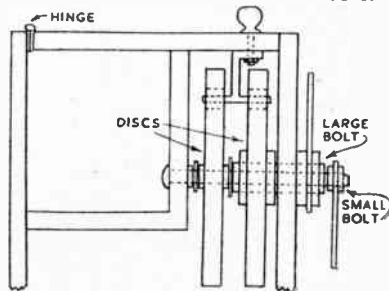

Fig. 5—Section showing mechanism
to be released in one particular place only. It will be seen from Fig. 5 that one disc requires a centre hole to take the larger spindle, and one a hole for the smaller.
Before assembling the cigarette compartment inside the case, fit on the spindles in the manner shown at Fig. 5. A hole is drilled in the front of the compartment, through which the thin bolt goes. The order for the rest is then: small nut, washer, another small nut, one disc, small nut, washer, and then the larger piece of spindle.
Fig. 7 shows how the catch is made. It is held to the lid by the same bolt that holds on a little knob, and it engages in the slits cut out of the discs, as shown at Fig. 5.
A piece of plywood, $\frac{1}{8}$ in. thick is cut as dimensioned in Fig. 5. When the main frame (B) is glued to it, there will be a $\frac{1}{8}$ in. rebate all round, as clearly seen in Fig. 4. In Fig. 2, a corner of the frame (B) has been cut away to show the construction.